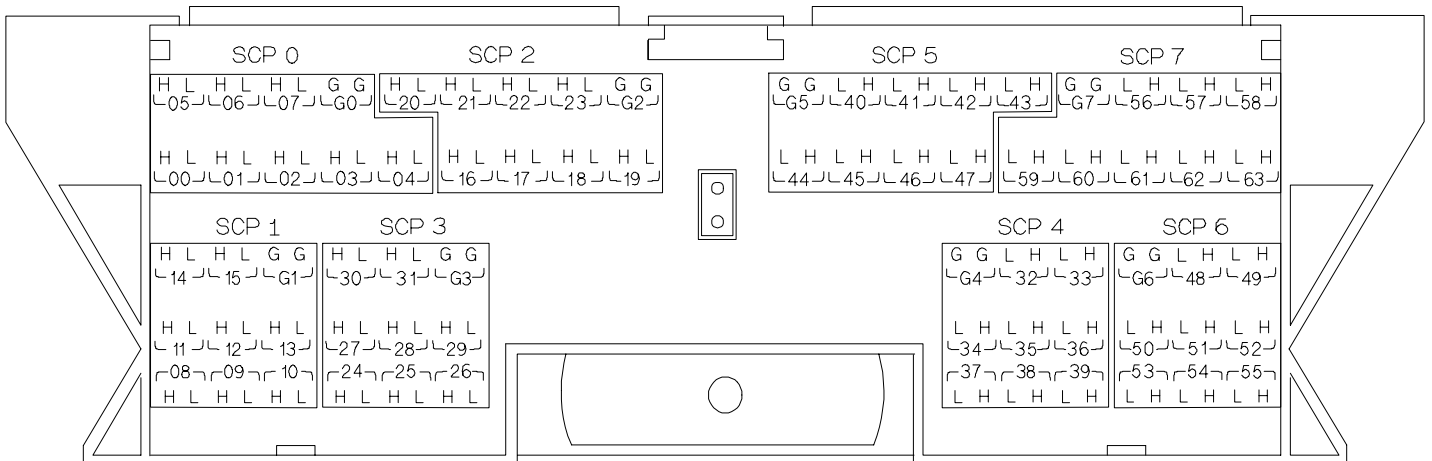

Figure 4 HP E1413 Option 13 Terminal Module Connections
- For HP E1413B and below Terminal Modules, use stickers for HP E1413 Option 13 SCPs. The connections are shown in Figure 4.